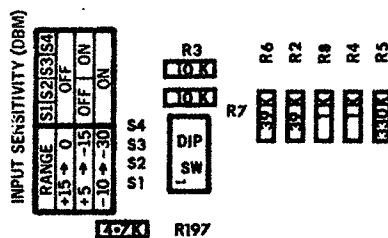

FIGURE 2-5 ATTENUATOR SWITCH LOCATIONS
4. Locate the internal mini dip switches. (Refer to Figure 2-5 for switch location)